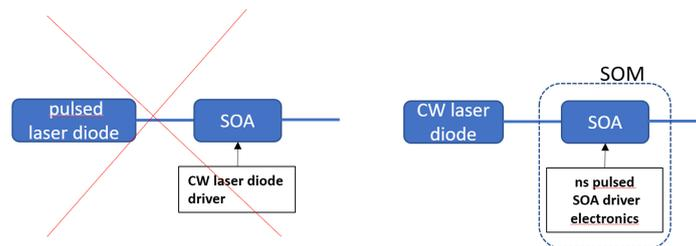

Figure 8 : SOA, when driven with specific electronics, behaves like a fiber modulator with no insertion loss (SOM)
**Semiconductor optical amplifiers (SOA)** are a well-established alternative to CW EDFA's (Erbium Doped Fiber Amplifiers) and are used to amplify a pulsed signal. A Semiconductor Optical Modulator (SOM) utilizes SOA technology in a different way than traditional SOA amplifiers have been used (*Figure 8*). Semiconductor optical modulation utilizes a SOA as a **light modulator** with potentially negative insertion loss (i.e. Gain). In this case, a CW laser diode signal is applied to the SOA and **it is the level of current driving the SOA which is switched ON/OFF at GHz speed**. This modulated signal can also be customized and shaped to accommodate many emerging applications.